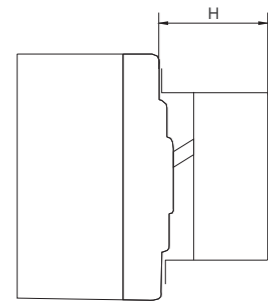

Figure 6. Mounting dimensions of the motor operator
7、 See Table 3 for the data of the motor operator, and Figure 6 and Table 4 for its mounting dimensions.